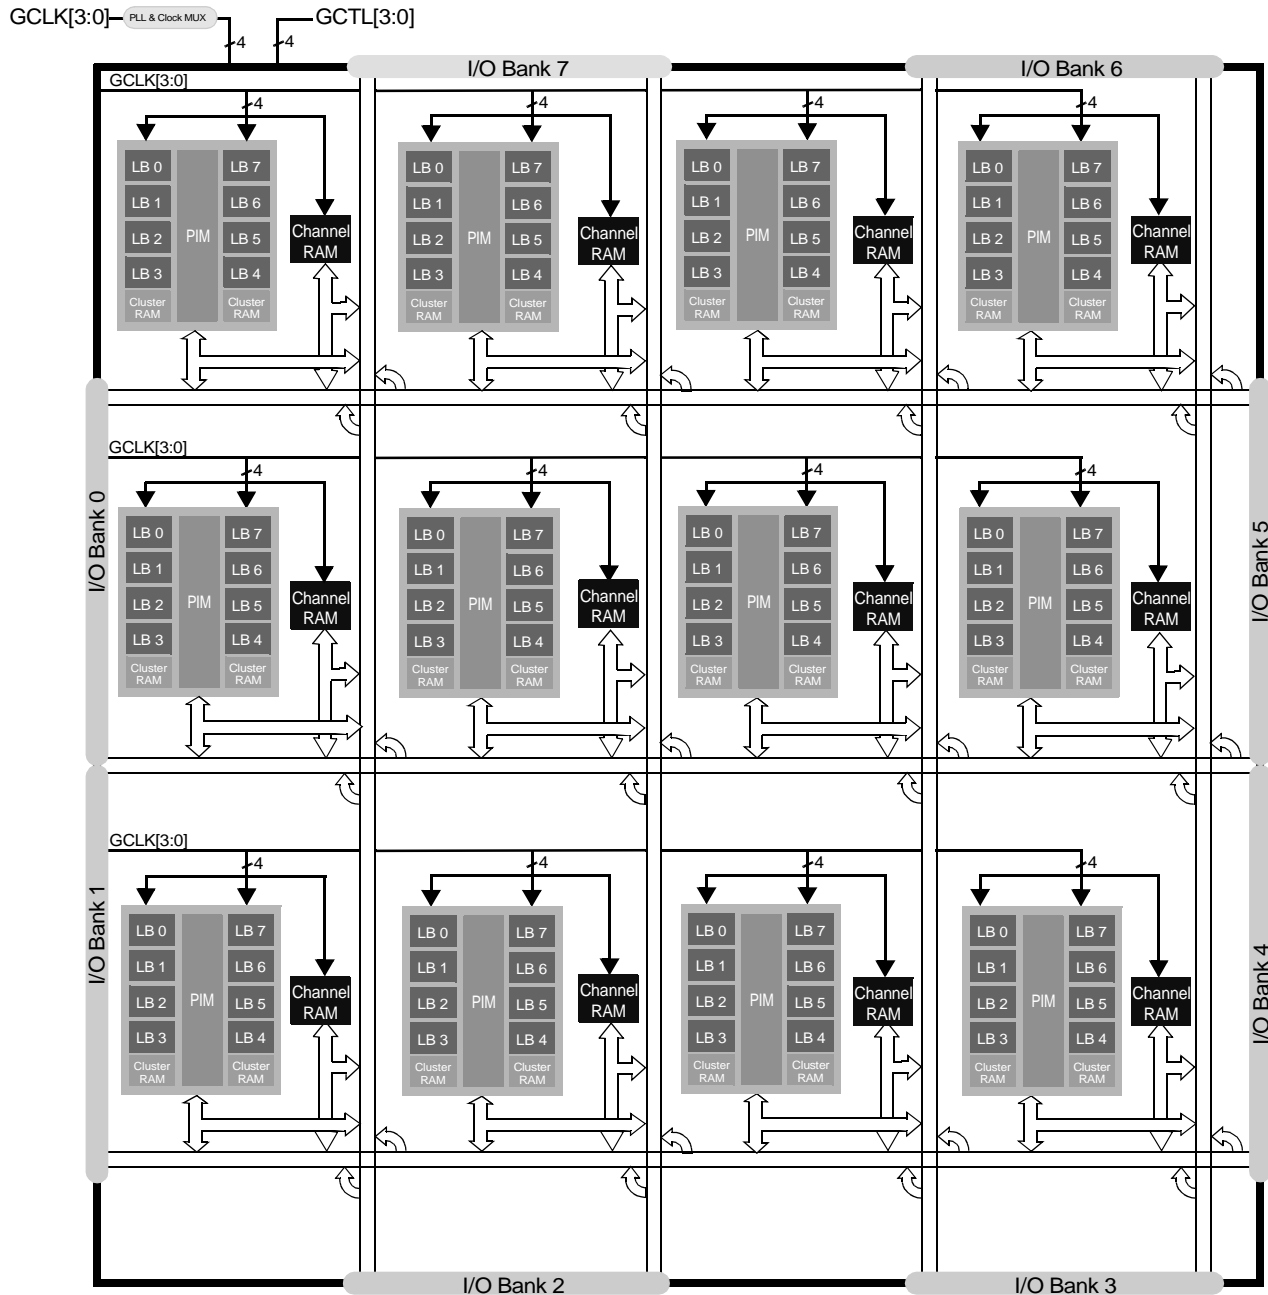

Figure 1. Delta39K100 Block Diagram (3 Rows x 4 Columns) with I/O Bank Structure
The architecture is based on Logic Block Clusters (LBC) that are connected by Horizontal and Vertical (H&V) routing channels. Each LBC features eight individual Logic Blocks (LB) and two cluster memory blocks. Adjacent to each LBC is a channel memory block, which can be accessed directly from the I/O pins. Both types of memory blocks are highly configurable and can be cascaded in width and depth. See *Figure 1* for a block diagram of the Delta39K architecture.